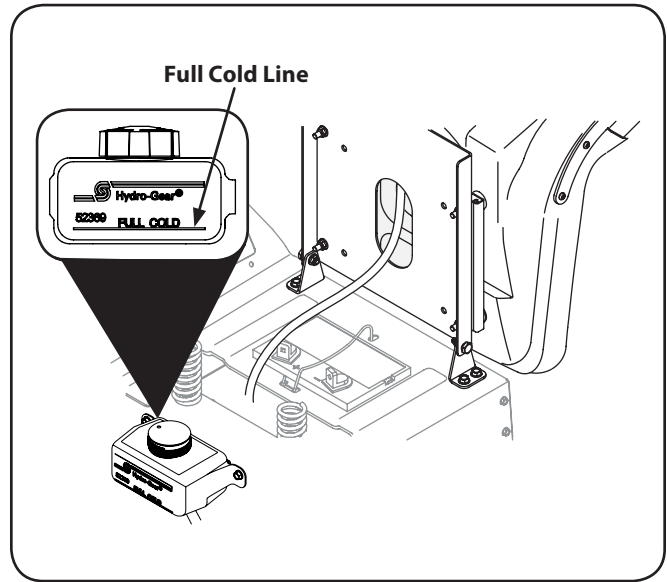

Figure 6-1
1. Pivot the operator's seat forward and clean the reservoir cap and the area around the cap to prevent debris from contaminating the transmission oil. See Figure 6-1.
2. Turn the reservoir cap counterclockwise to re-move, then check the oil level in the reservoir. Oil should be visible at the bottom of the cup, but the oil level must **NOT** be above the "FULL COLD" line. See Figure 6-1. **DO NOT FILL THE RESERVOIR.**